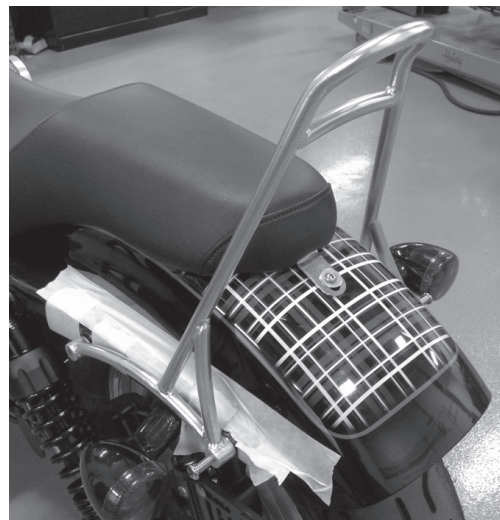

Figure 3
- Install the Sissy Bar by running the supplied shorter (2") bolts through the rear holes of the Sissy Bar, then through the stock washers (removed earlier), the rearward holes of the fender struts, the fender, inner fender support, and thread them into the indexed stock nut - but do not tighten them yet (see figure 3).